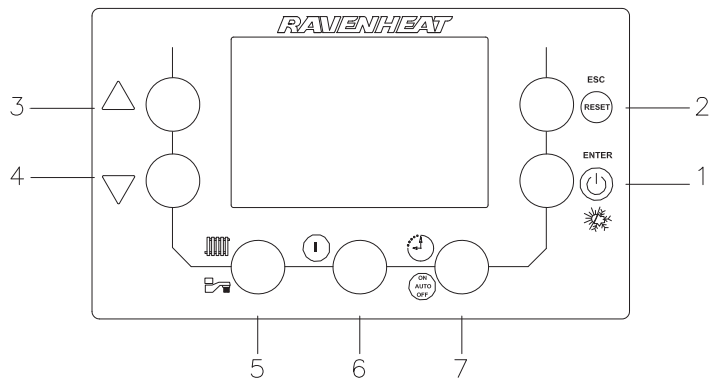

Fig. 1
In the event of an error, the appliance will show a sequence code displayed on the digital display of the control panel (fig. 1). By pressing the "RESET" button it is possible to relight the boiler (see page 52 and 53 for list of error codes).
The boiler is equipped with a large LCD display that indicates the appliance operating status fig. 1).
It is possible to show the boiler value. Press INFO button (item 6 fig. 1) to show the boiler values. Use the arrow up and the arrow down buttons, (item 3 and 4 fig. 1) to show the following info:
1. Press and hold for 5 seconds the TIMER MODE button (item 7 fig. 1). The hour value will flash.
2. Press the up and down arrow buttons (item 3 and 4 fig. 1) to select the current hour (24h). Then press the ENTER button (item 1 fig. 1) to begin to flash on the display confirm after this the minutes will flash.
3. Press the up and down arrow buttons (item 3 and 4 fig. 1) to select the current minutes and then press the ENTER button (item 1 fig. 1) to confirm, after this the day indicator will begin to flash on the display.
4. Press the up and down arrow buttons (item 3 and 4 fig. 1) to select the current day (1=Mon, 2= Tue etc.) and then press the ENTER button to confirm. The time is now set, press ESC button (item 2 fig. 1) to esc time function.
1. Press and hold the timer mode button (item 7 fig. 1).
2. Press and hold for 5 seconds the timer mode button (item 7 fig. 1) again for another 5 seconds.
3. Press the up and down arrows (item 3 and 4 fig. 1) to select the On1 time (first on time) and press the ENTER button (item 2 fig. 1).
5. Press the up and down arrows to set the Off 1 time (first off) and press ENTER button (item 2 fig. 1).